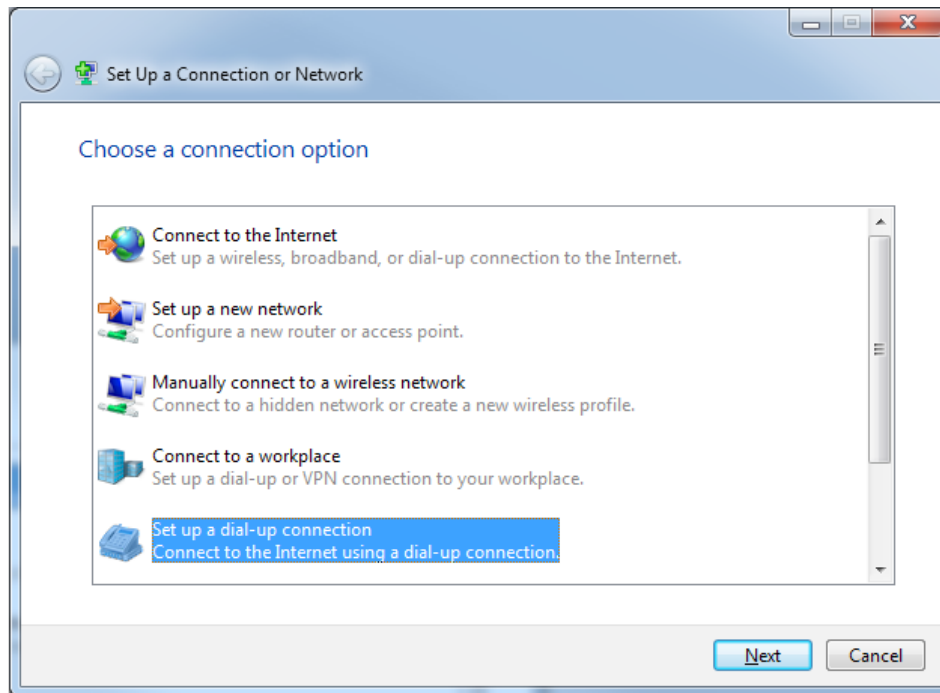

Figure 49. Set Up a Connection or Network.
3. A window similar to the one shown in Figure 49 appears. Choose "Set up a dial-up connection" option, and click "Next" button